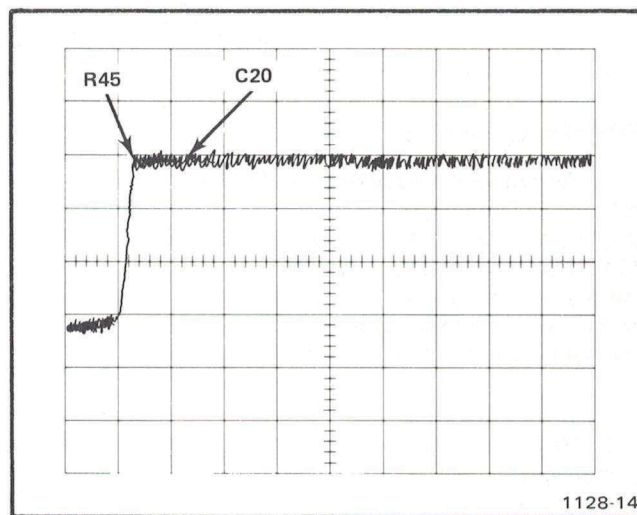

Fig. 4-7. Typical pulse waveform showing correct adjustment of LF Transient Response control C20 and Dot Transient Response control R45.
b. Adjust LF Transient Response control C20 for a flat top pulse. See Fig. 4-7.
a. Adjust Dot Transient Response control R45 so that the first dots on the leading edge of the pulse top do not appear above or below the pulse top. See Fig. 4-7.